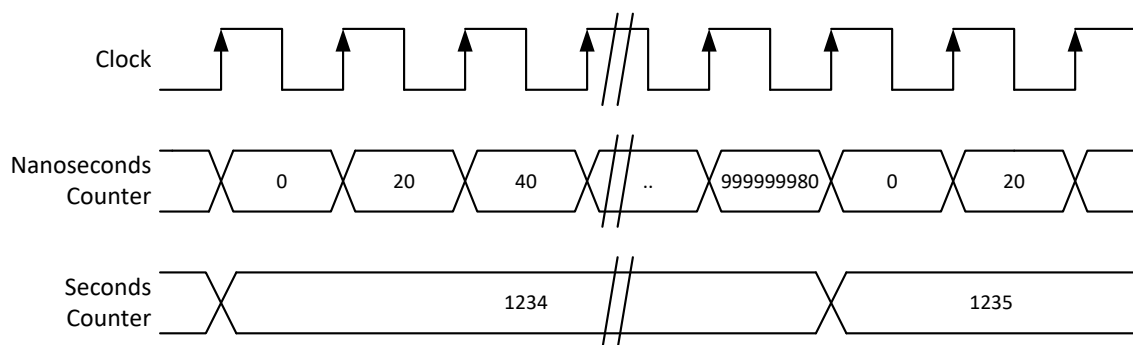

Figure 3: Counter Clock
Figure 3: shows a typical high resolution counter clock with nanosecond resolution and a counter period equal the clock period and a clock of 50MHz which equals to a 20ns clock period.
**Fehler! Verweisquelle konnte nicht gefunden werden.**Figure 3: shows exactly the delays which are occurring when timestamping.